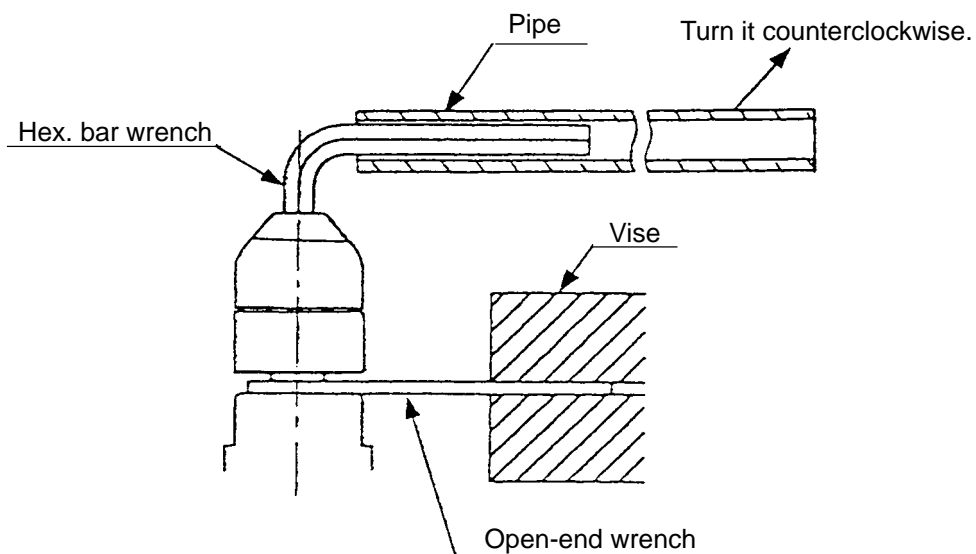

Fig. 9
- b. Hold the Spindle [7] with the open-end wrench secured to the vise as shown in Fig. 9. Mount the pipe to the hex. bar wrench. Turn the hex. bar wrench counterclockwise to loosen the drill chuck. (Fig. 9)